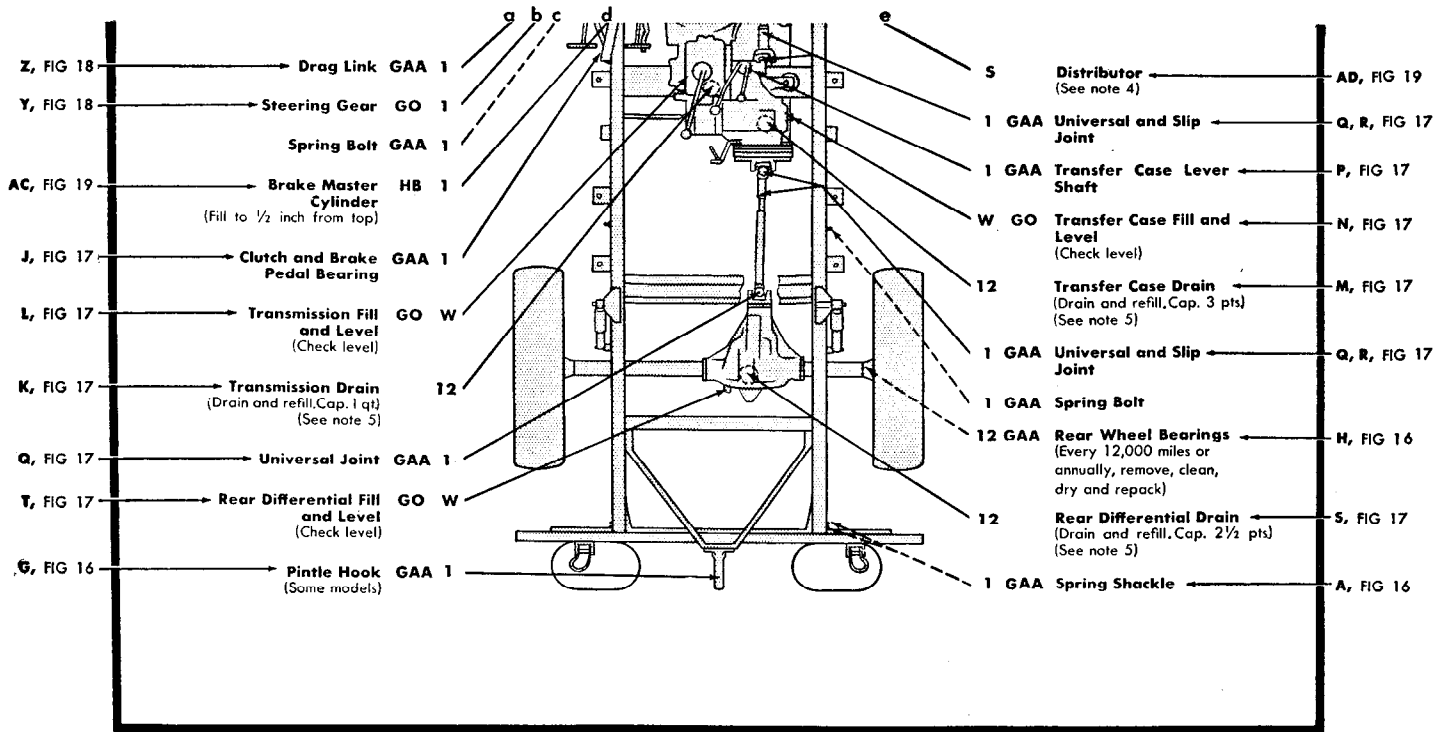

Figure 14. Lubrication order.
Lubrication Order 9-8012 (figs. 14 and 15) prescribes cleaning and lubricating procedures as to locations, intervals, and proper materials for this vehicle. The official lubrication order will be carried with the vehicle at all times. In the event the vehicle is received without a copy, the using organization shall immediately requisition one. See DA Pam 310-4 for lubrication order of current date. Lubrication which is to be performed by ordnance maintenance personnel is listed on the lubrication order in the "NOTES" (fig. 15), and in a few instances are contained in the pertinent section.
- (1) Lubrication points are shown in figures 16 through 19 and are referenced to the lubrication order. Clean fittings and surrounding surfaces as prescribed in lubrication general notes (fig. 14).
- (2) A  $\frac{3}{4}$ -inch red circle should be painted around all lubricating fittings, oil can points, and refill plug holes.
- (3) Clean and lubricate unsealed bearings as in (a), (b), and (c) below.
*a. General.* Any special cleaning instructions required for specific mechanisms or parts are contained in the pertinent section. General cleaning instructions are as shown in (1) through (5) below.
- (1) Nameplates, caution plates, and instruction plates made of steel rust very rapidly. When they are found to be in a rusty condition, they should be thoroughly cleaned and heavily coated with an application of lacquer.
- (2) Use dry-cleaning solvent or volatile mineral spirits to clean or wash grease or oil from all parts of the vehicle.
- (3) A solution of one part grease-cleaning compound to four parts of dry-cleaning solvent or volatile mineral spirits may be used for dissolving grease and oil from engine blocks, chassis, and other parts. Use cold water to rinse off any solution which remains after cleaning.
- (4) After the parts are cleaned, rinse and dry them thoroughly. Apply a light grade of oil to all polished metal surfaces to prevent rusting.
- (5) Before installing new parts, remove any preservative materials, such as rust-preventive compound, protective grease, etc.; prepare parts as required (oil seals, etc.); and for those parts requiring lubrication, apply the lubricant prescribed in the lubrication order (par. 66 and figs. 14 and 15).